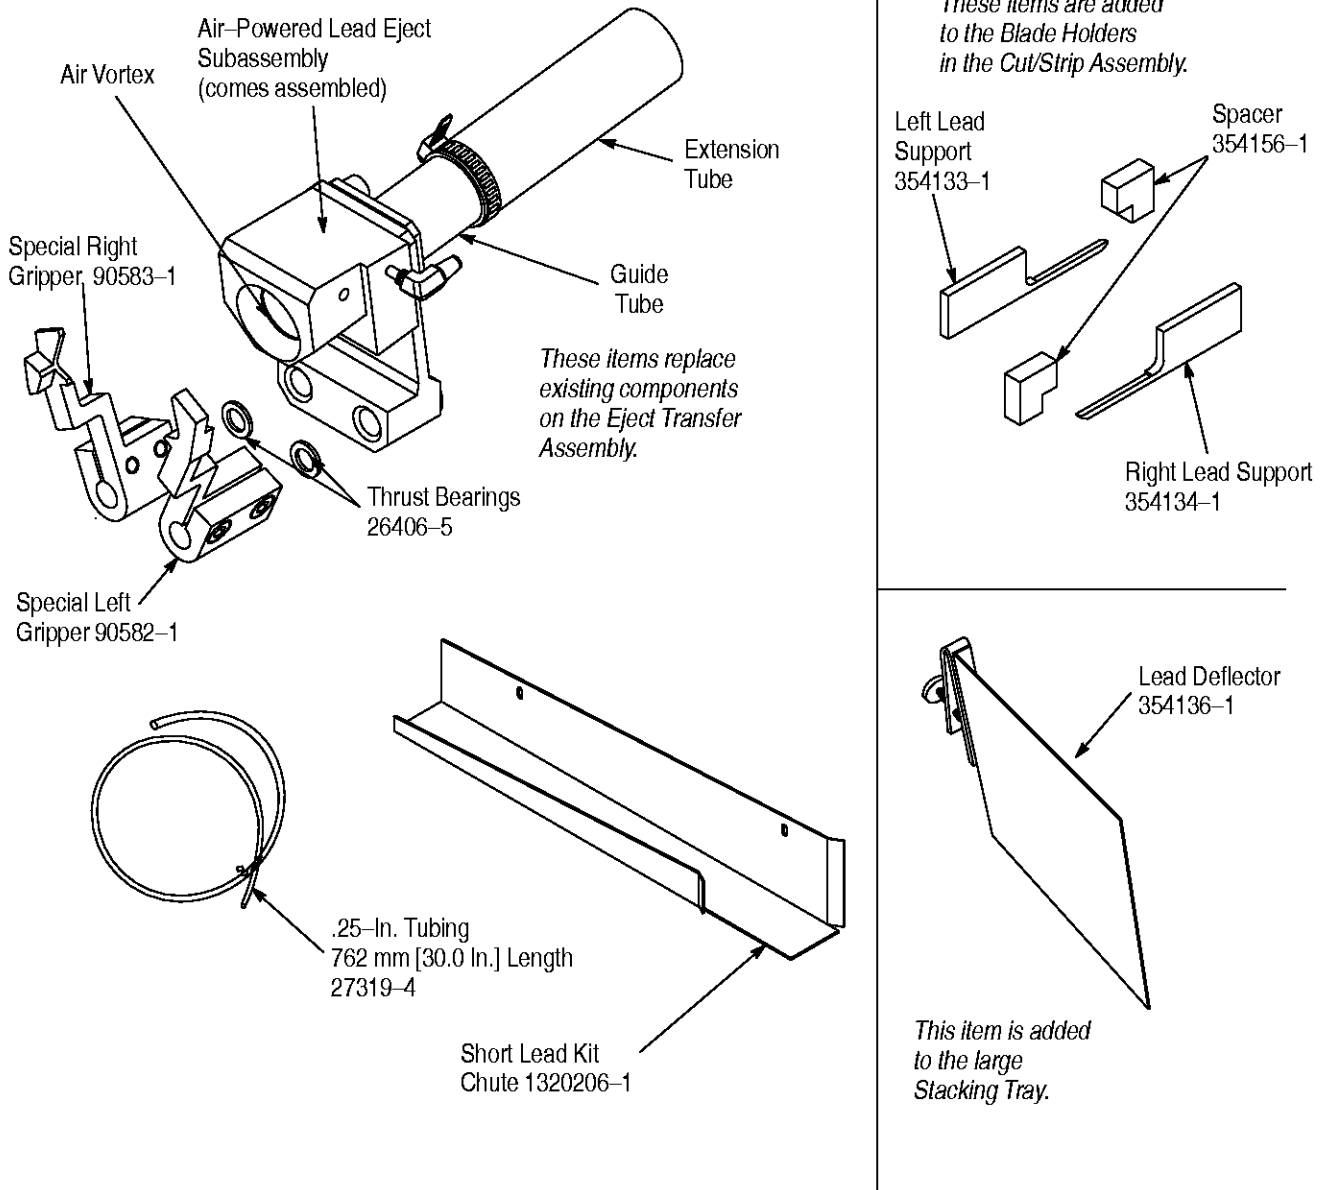

Figure 1
2. DESCRIPTION (Figure 1)
1. Refer to Figure 1 and familiarize yourself with the kit components that are to be added to the eject transfer assembly.
- Revised Figure 1 to show Extension Tube and Short Lead Kit Chute 1320206-1